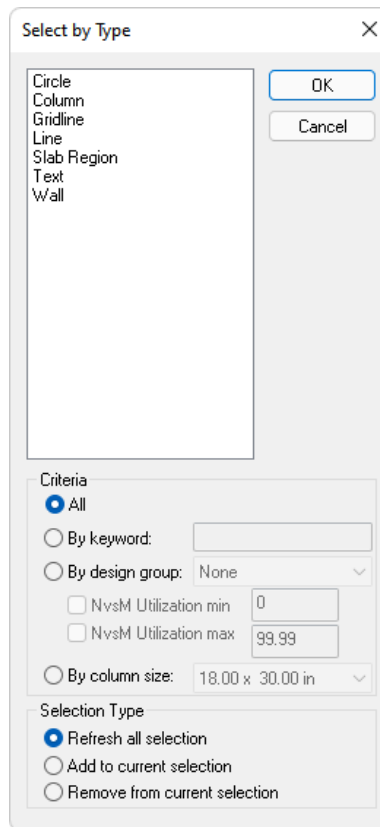

FIGURE 3-20
- Click on the **Select by Type**  icon located in the *Bottom Quick Access* toolbar. This will open the *Select by Type* dialog window as shown in **FIGURE 3-20**.